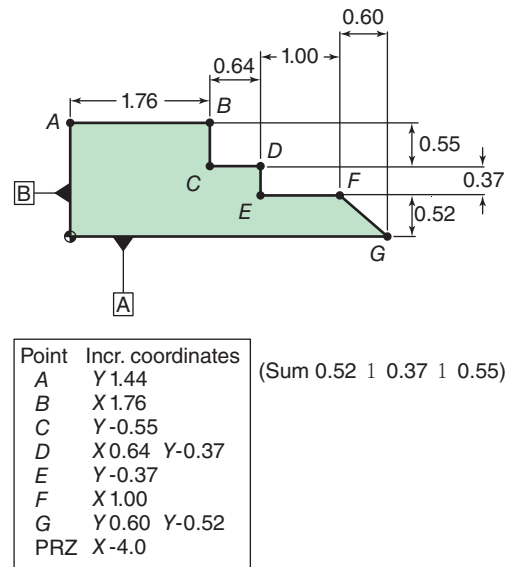

Figure 17-39 Once again, the program errors and does not produce the shape shown. Analyze the difference in absolute and incremental errors.
- The set of X-Y, *incremental* coordinates in Fig. 17-39 have an error that does not produce the shape shown—once again. Start the PRZ. Plot and connect them in sequence using a contrasting color, to do the same problem in absolute value. What happens to the shape? Solving this puzzle will point out a big difference between the two kinds of coordinates when an error is made.